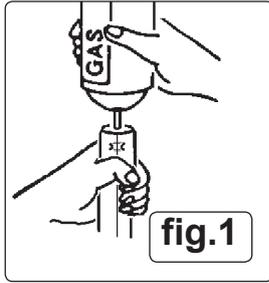

fig.1
- 4.1.4. Apply the can filler tip to the torch base filler valve (fig.1). Use a pumping action for best filling results.